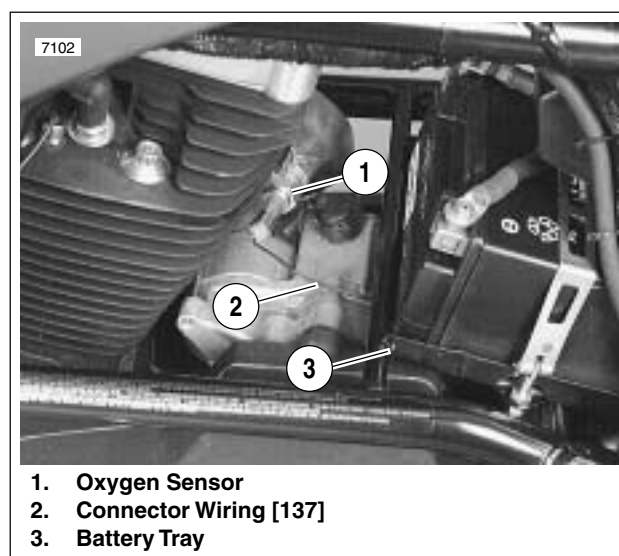

Figure 4-44. Oxygen Sensor Installed (Typical)
- **Loose O2 sensor.** See Figure 4-44. If the O2 sensor is loose engine performance may be affected. This could also show up as a slow changing O2 sensor voltage on the Scanalyzer.